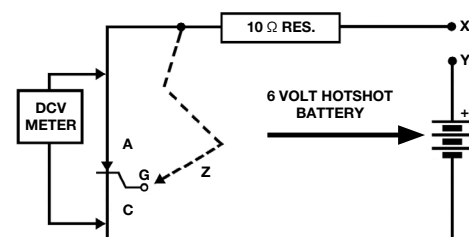

Figure 17-3: SCR Test Schematic
3. As shown in Figure 17-3, connect X to Y. DC voltage should read 6 volts. Touch wire Z momentarily to gate. DC voltage reading should drop to less than one volt. Open X-Y connection and reconnect. DC voltage reading should return to 6 volts.